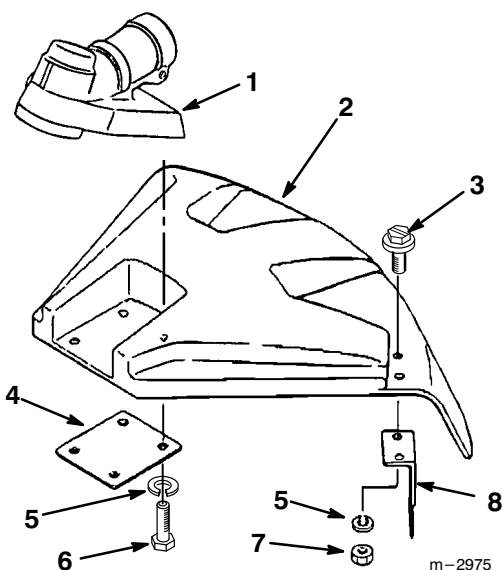

Figure 5
1. Fasten the string cutoff blade to the trimmer head shield with two M5 x 25 screws, lock washers and hex nuts as shown (Fig 5).
2. Attach the trimmer head shield to the gearcase with the four M5 x 12 screws and lock washers as shown (Fig 5).